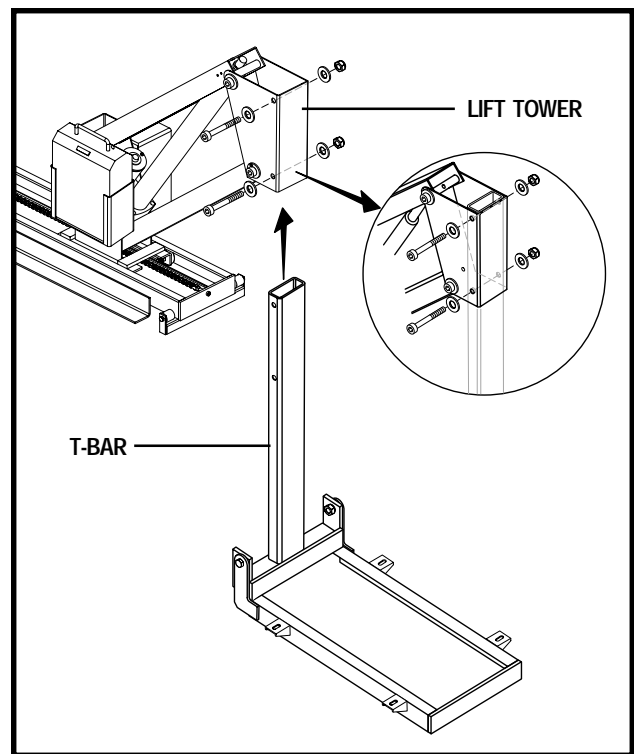

Figure 3. T-Bar Installation
- Insert the T-Bar into the lift tower and secure into position with the supplied hardware. See figure 3.